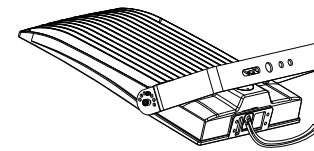

Figure 8
Step 2: Install two small screws. (Figure 8)